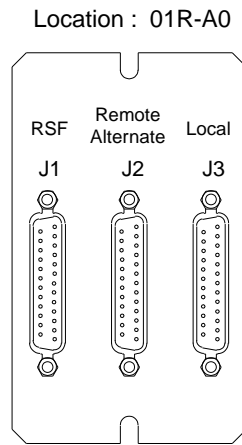

Figure 3-2. Console Tailgate For a 3745 Model 130, 150, 160, or 170
- a. **Plug the console wrap tool** (P/N 6398697) at the rear of the 3745 in the **local** console tailgate connector at 01R-A0J3. For locations, refer to Figure E-2 on page E-2, and see the following drawing (Figure 3-2):